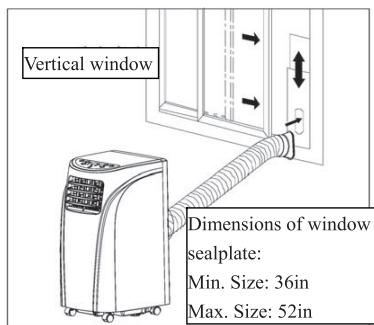
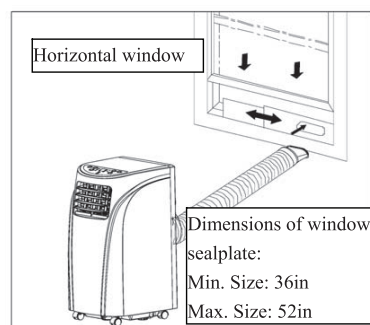

Fig. 8
Fig.9
- The design of the window sealplate was made to be universal and should work with most standard horizontal or vertical windows. (the installation methods are shown in Fig.8 and Fig.9)